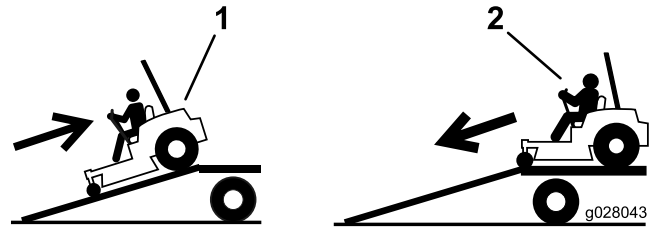

**Figure 39**
5. Tie down the machine near the front caster wheels and the rear bumper (Figure 39).